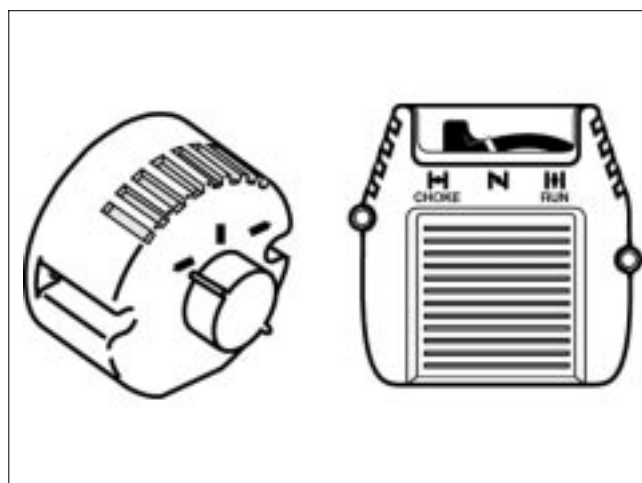

Figure 1-5. Typical Choke Controls.
3. Place the choke knob or choke lever in the FULL "CHOKE" position (Figure 1-5).
7. Place the choke knob or choke lever in the "PARTIAL" choke position (Figure 1-5).